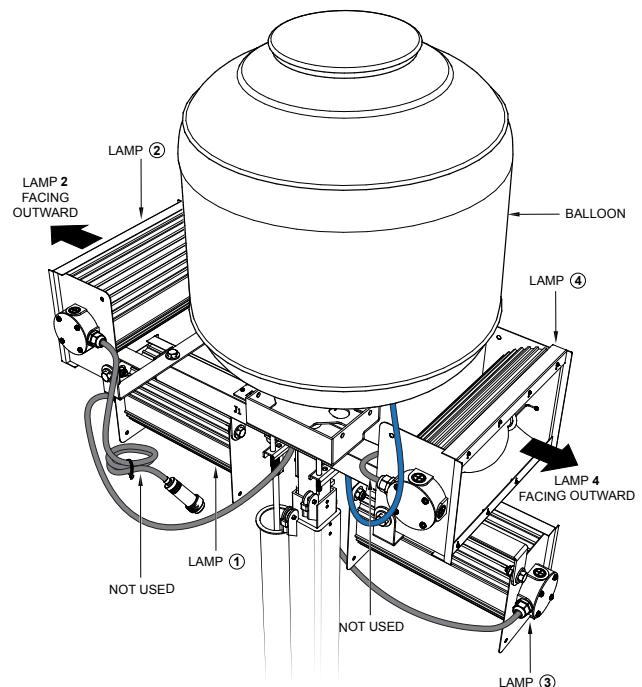

Figure 19. Balloon Deployed (Typical Application)
7. Raise the light tower mast (Figure 19) to the desired upright height.